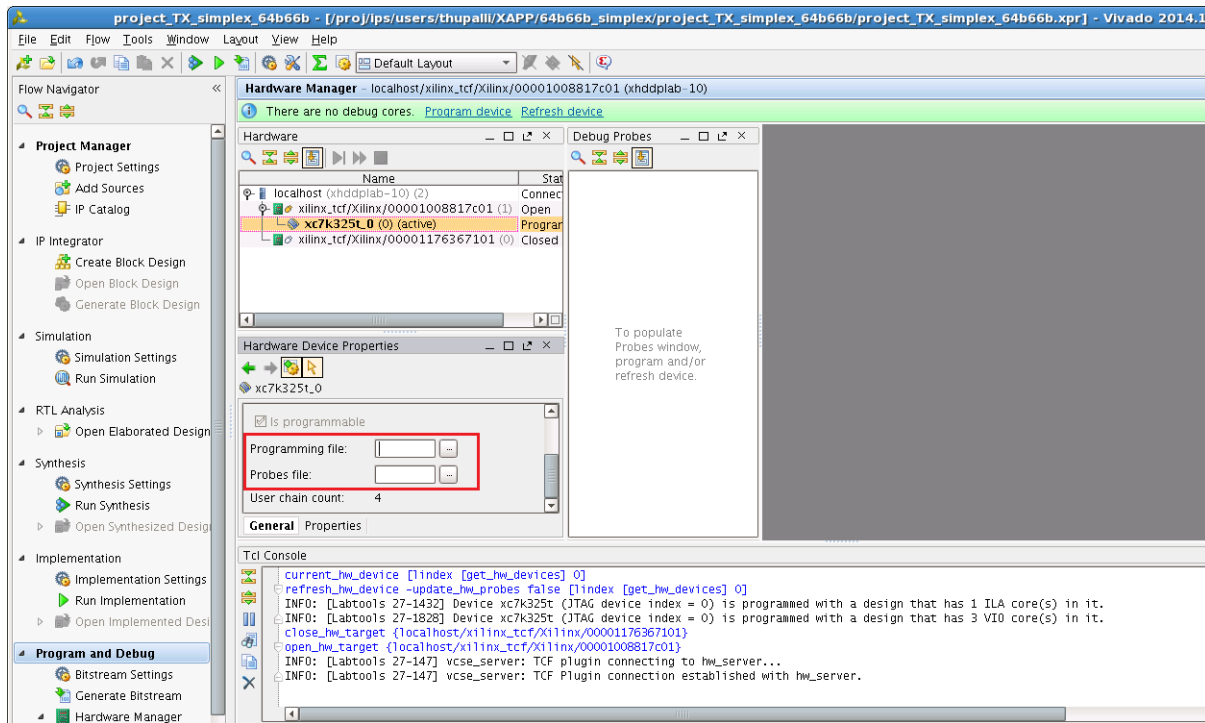

Figure 19: Hardware Device Properties
6. In the Hardware panel, click the active device, XC7K325T_0 (0) (Active).
- In the Hardware Device Properties panel, set **Programming file** to the bitstream file name for the receive platform (`aurora_64b66b_0_exdes.bit`) and set **Probes file** to the appropriate `.ltx` probes file name (`debug_nets.ltx`). See Figure 19.